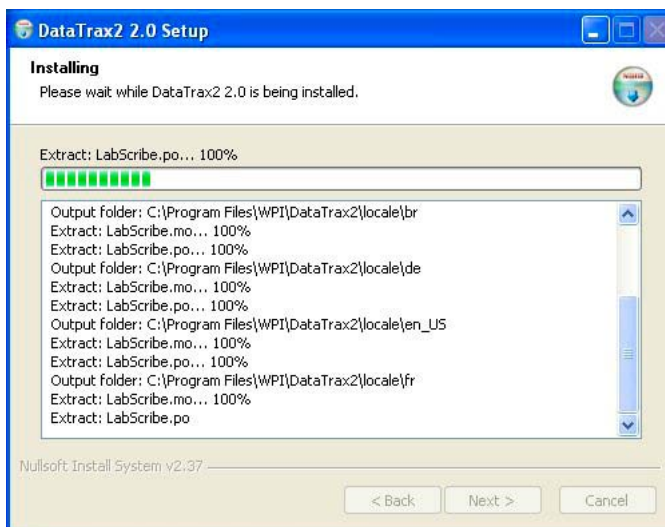

Fig. 22 — Install progress
5. Accept the default location or click the **Browse** button and select the desired location. Once the location is chosen, click the **Install** button. A window displays briefly showing the progress of the installation (**Fig. 22**).